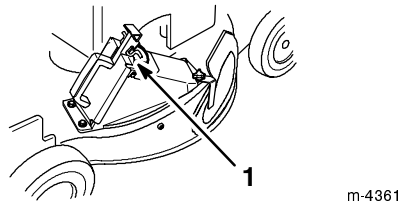

Figure 54
6. Release the door latch, allowing it to hook over the tabs on the plug (Fig. 54).